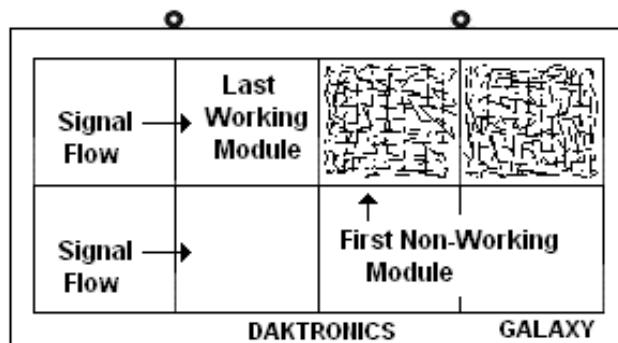

Figure 32: Modules Not Working
- Check/replace ribbon cables from the last working module in the row to the first non-working module next to it (**Figure 32**).